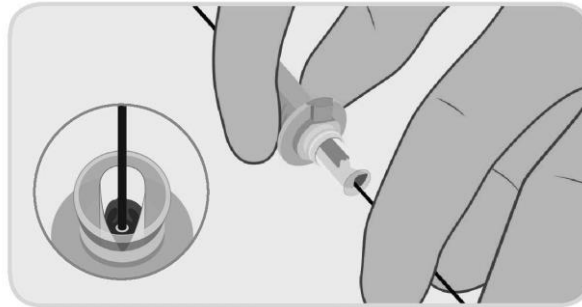

Figure 7. Loading guidewire into device cannula
- Use non-heparinised saline to lubricate the guidewire during insertion. Insert the guidewire into the implant within the loading cannula, Figure 7 continue to insert the guidewire until it emerges from the rear of the PerQseal® closure device handle. Hold the PerQseal® Introducer-sheath at a low angle relative to the longitudinal axis of the artery (e.g. 20°) and keep the Introducer-sheath as straight as practical, to avoid kinking.
Note 2: Only grip the back portion of the Loading cannula during insertion as indicated in Figure 7.